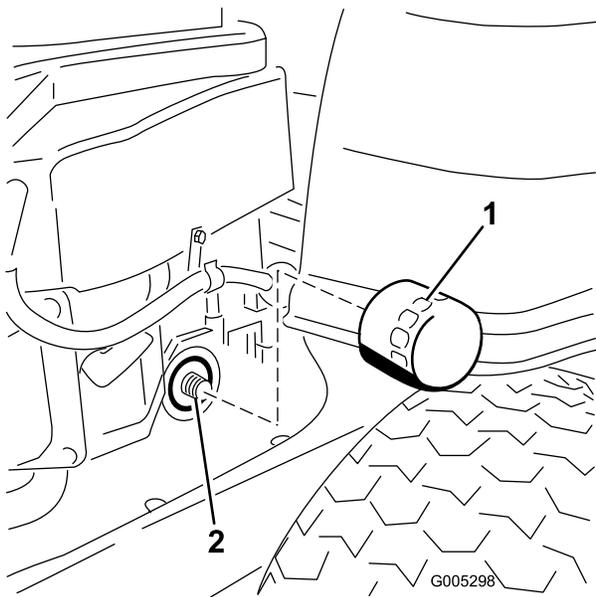

Figure 30
9. Locate the oil filter on the right side of the engine. Remove the old filter and wipe off the filter adapter with a clean cloth (Figure 30).
11. Install the replacement oil filter to the adapter. Turn the oil filter clockwise until the rubber gasket contacts the pad, then tighten the filter an additional 3/4 to 1 turn (Figure 30). Wipe up any excess oil on the frame.